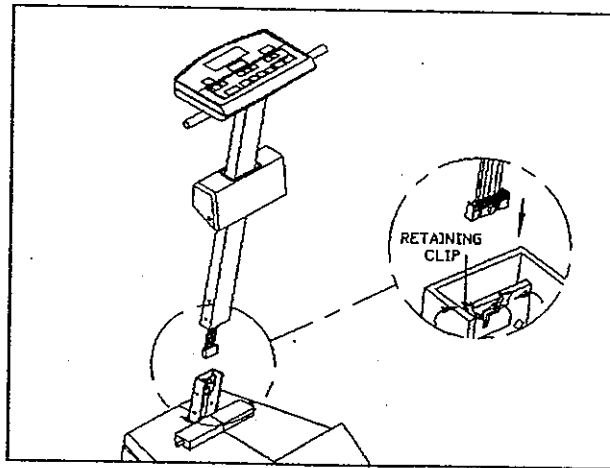

Fig. 1
a. Make sure the retaining clip connected into its socket securely.(see Fig.1)